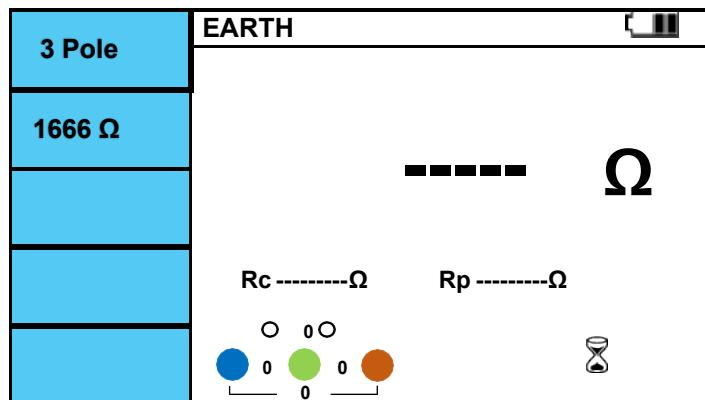

**Figure 6.8.5 Earth Resistor 3Pole connection.**
- IV. Connect the L(E), PE(S), and N(H) terminals to the measurement position as shown in Figure 6.8.5.